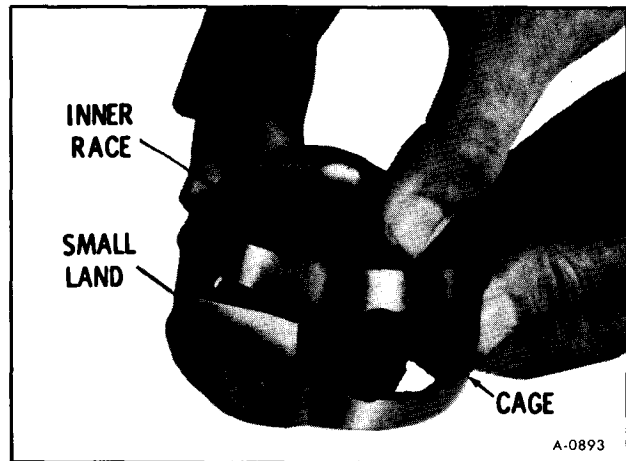

Figure 12—Removing or Installing Inner Race from Cage
12. While holding cage and inner race, turn inner race 90°. Line up short land of inner race with slot in cage. Move short land through cage and turn inner race up and out of cage. (figure 12)
1. Insert short land of inner race through bore of cage and pivot to install in cage. (figure 12).